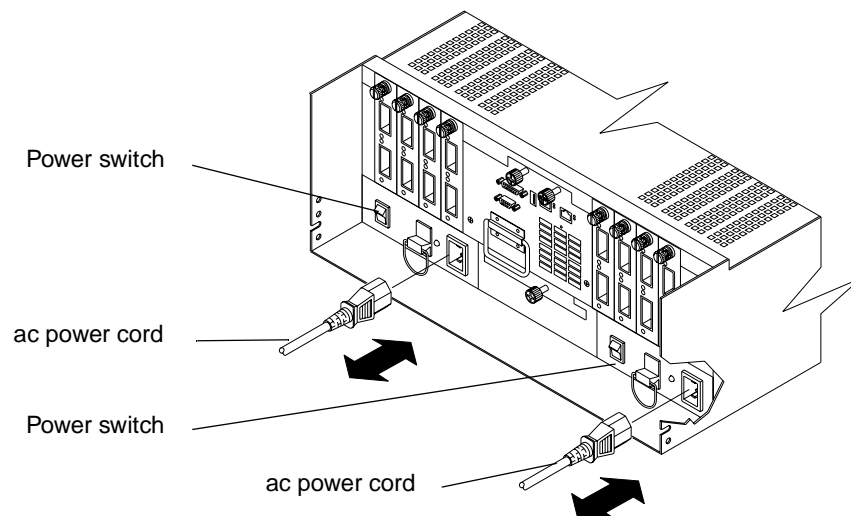

Figure 27. Connecting the power cords and turning on and off the power
- 2 Plug both controller unit power cords into the controller unit, as shown in Figure 27.
Turn on both power switches on the back of the controller unit (see Figure 27 on page 41 for the location of the switches). You must turn on both switches to take advantage of the redundant power supplies.
- 2 Turn off the power switches on the back of the controller unit (see Figure 27 on page 41 for the location of the switches).